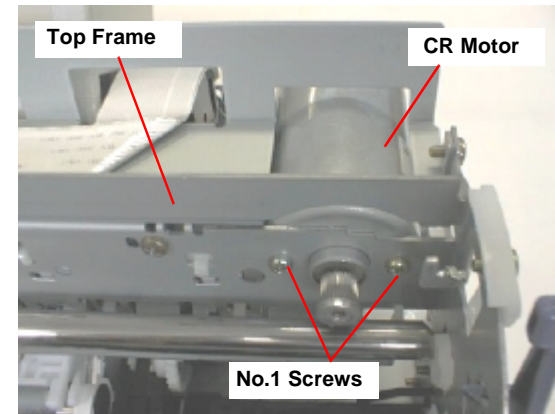

Figure 4-18. Removing the CR Motor Assembly
- 4) Remove two screws (No.1) while holding the CR motor and remove the CR motor assembly. Refer to Figure 4-18.